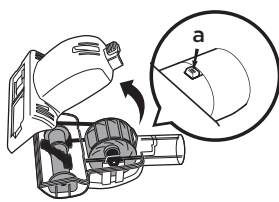

Fig. 25
- 1 Slide the locking latch (a) forward and lift off the brushroll housing. (Fig. 25)